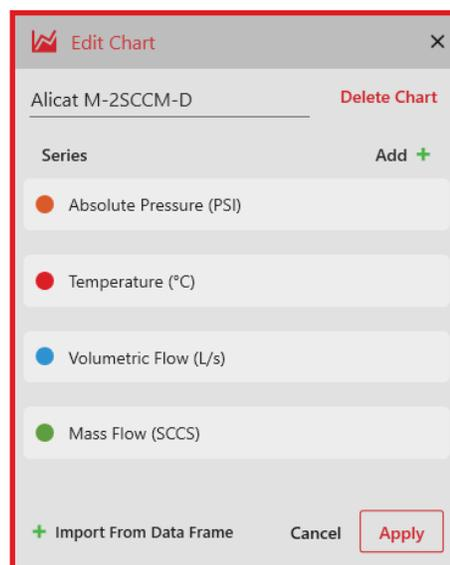

Figure 23. Editing a chart.
See figure 23
2. Define a name for the new chart and click **Add**. The **Edit Chart** window appears (figure 23) allowing you to add data series for the chart. The name you entered in the previous step is automatically filled in, but can still be changed if desired.